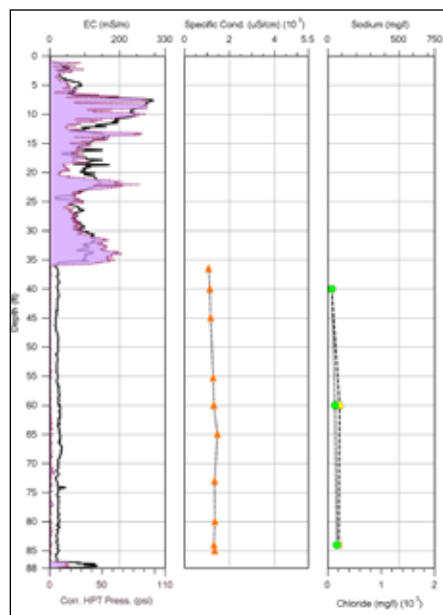

Figure 1: Background Log.
The obtained MIP data was processed using the Ejlskov Studio Pro software (provided by the Danish company EJLSKOV), which uses MIP data to model spatial distribution of the contamination expressed as detector response (Figure 1). The results showed good correlation between the soil samples and the MIP logs. Based on the data obtained, Dekonta documented that MIP can be used to monitor mixed contamination by BTEX and MCB. Investigators were able to determine the presence of BTEX and MCB by observing the PID and XSD signals. Both contaminants have a similar signal on the PID. The presence of MCB is indicated by an increase in XSD response.
FIGURE 1. Example of MIP log from the site contaminated mainly by BTEX and monochlorobenzene (MCB). The PID signal shows residual contamination by BTEX around the groundwater (4 m bgs), and massive contamination of clay layers between 7.5 and 9.5 m bgs. The presence of MCB is confirmed by the signal from the XSD detector.
At the background location, a plot of corrected HPT pressure over Electrical Conductivity (EC) allowed them to see the upper 35 feet of the formation exhibit relatively high EC and HPT pressure correlating with the sandy to silty clays in the upper part of the formation (Figure 1). Below 35 feet, low, flat HPT pressure and low, flat EC responses indicated the presence of clean sands and gravels. Dissipation tests indicated the local water level was just above 30 feet so the sand-gravel materials were all saturated with groundwater. Much of the bulk formation EC measured in a saturated, clean sand and gravel formation is the result of the specific conductance of the contained groundwater. Dry sand and gravel typically will have a bulk EC of less than 2 or 3 mS/m (milliSiemens /meter). At the background location, the bulk formation EC was around 30mS/m in the saturated sand and gravel.